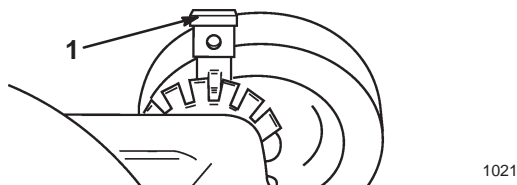

Figure 13
1. Pull the wheel height adjustment lever toward the wheel and move it to the desired position (Fig. 13).